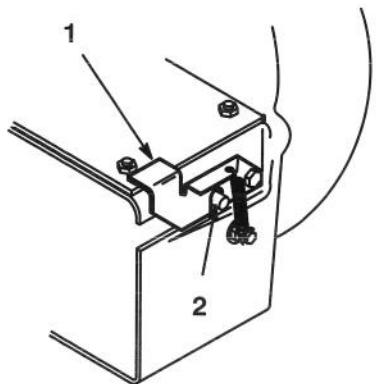

Figure 16
- With the belt installed, swing the blower toward the mower until the blower latch locks over pin at the back of the mower (Fig. 16).